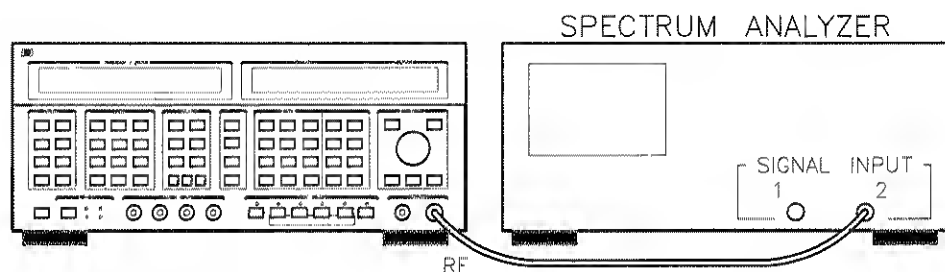

Figure 2-3. Equipment Setup for FM Procedure #1.
1. Connect the Signal Generator to the spectrum analyzer as shown in figure 2-3. Turn on the equipment, and make the following adjustments to the spectrum analyzer: